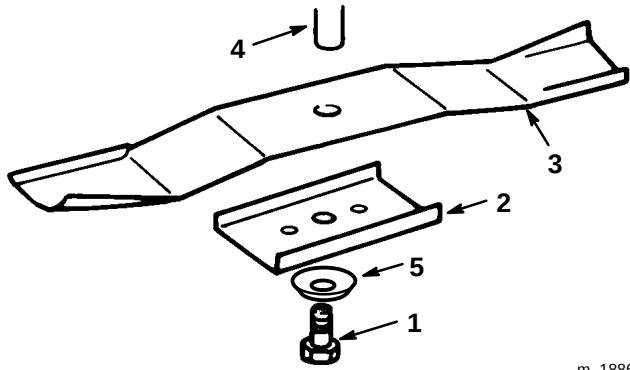

Figure 33
- Remove the bolt (5/8" wrench), curved washer, retainer and blade (Fig. 33). A block of wood may be wedged between the blade and the mower to lock the blade when you are removing the bolt.
1. Install the blade, blade retainer, curved washer (cupped side toward blade), and the blade bolt (Fig. 33).